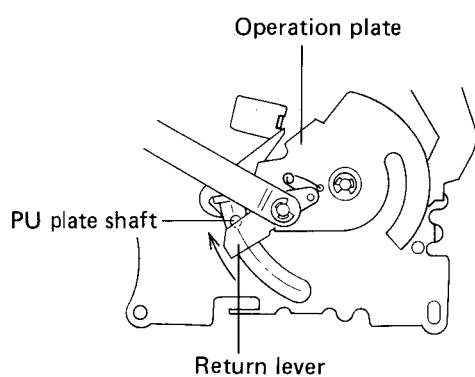

Fig. 7
5. The return lever on the operation plate then commences to return the PU plate shaft in order to return the tonearm to the arm rest (see Fig. 7).